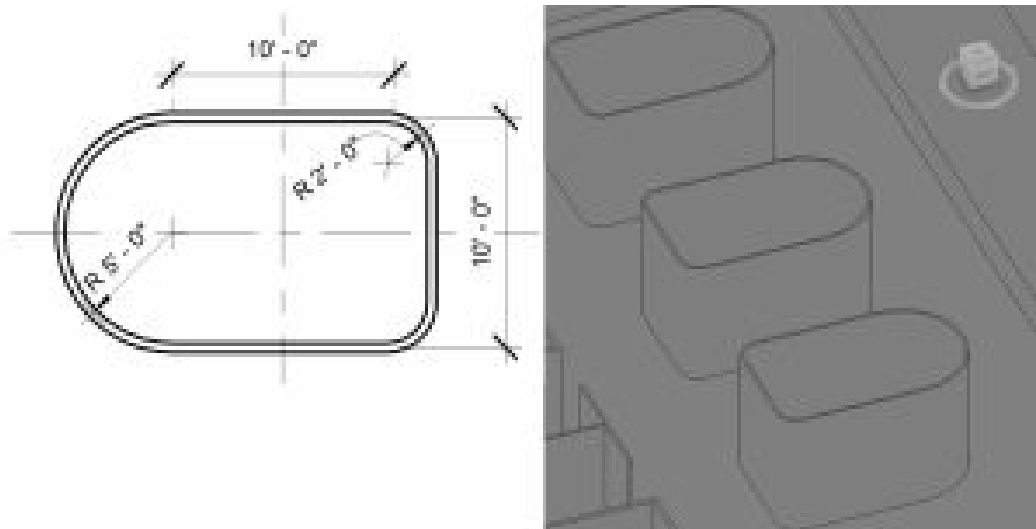

Figure 2.27 Dimensions for the room with curved walls
4. Under the Draw panel, use the Start-End-Radius Arc tool  and the line tool  to draw the rooms. Refer to the dimensions in Figure 2.27